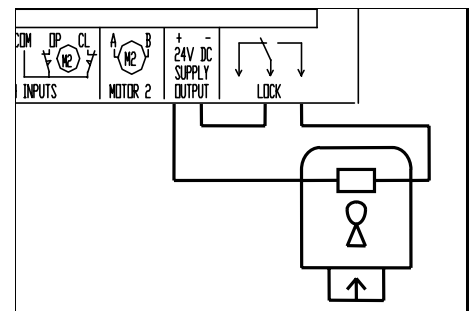

**Figure 14: Wiring control and safety inputs.**
**Figure 14** shows how to wire the control and safety input terminals to switches, such as a Photo Electric Beam. Note that the P.E., OPN and STP inputs require a normally closed contact, which is provided by the shunts (see Fig 11 and Fig 14).